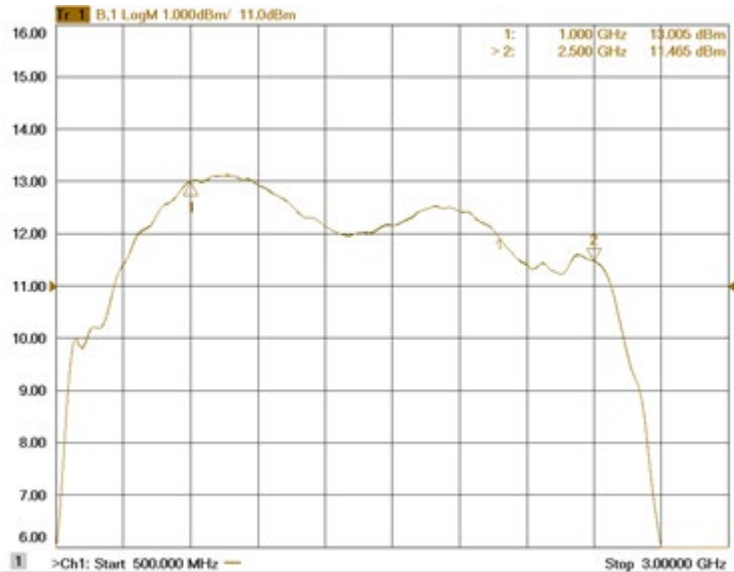

Figure 4-2. Typical Response: Input A3-Front Panel RF Output
- Remove the coaxial cable from the output of the A3 Driver Amplifier to the input of the A4 Two-Way Splitter. The typical response from the input of the A4 Two-Way Splitter to the RF OUTPUT connector on the unit's front panel is shown in Figure 4-2.